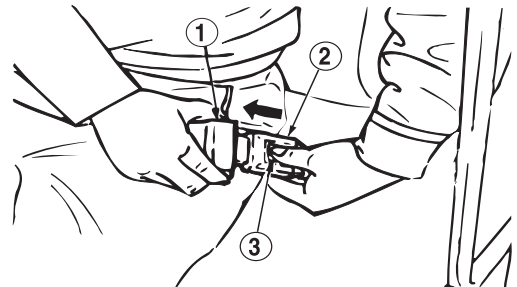

Fig 72
Press button (3, Fig 72) in center of buckle (2) and pull out belt (1) to unlock.